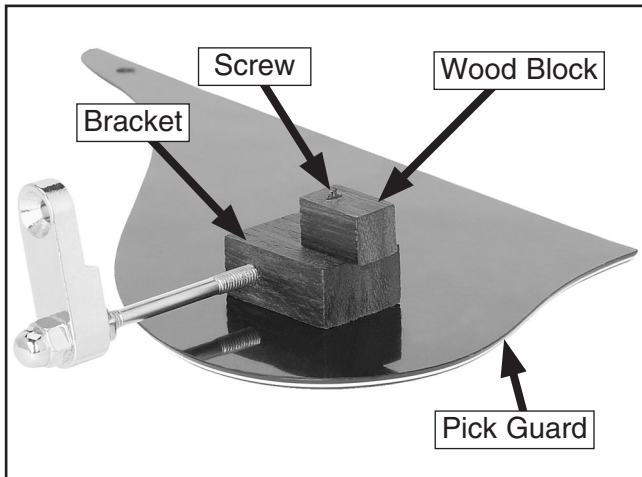

Figure 46. Metal bracket attached to pick guard.
1. Attach the bracket to the pickguard with the #3 x 3/4" black screw as shown in **Figure 46**.